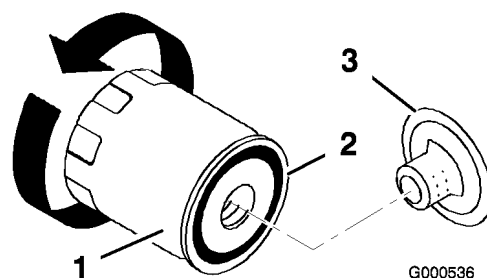

Figure 27
- Change the oil filter, if necessary (Figure 27).
- Remove the old filter and wipe the filter adapter gasket surface (Figure 27).
- Apply a thin coat of clean oil to the rubber gasket on the replacement filter (Figure 27).
- Install the replacement oil filter to the filter adapter. Turn the oil filter clockwise until the rubber gasket contacts the filter adapter; then tighten the filter an additional 1/2 to 3/4 turn (Figure 27).